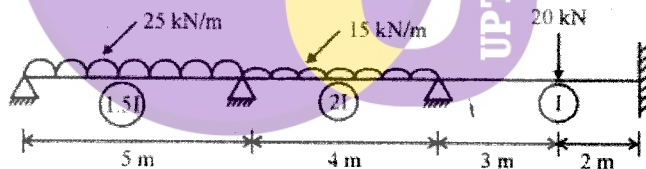

FIG 6
- (b) Analyze the continuous beam shown in fig 6 by stiffness method. Draw bending moment diagram and elastic curve.